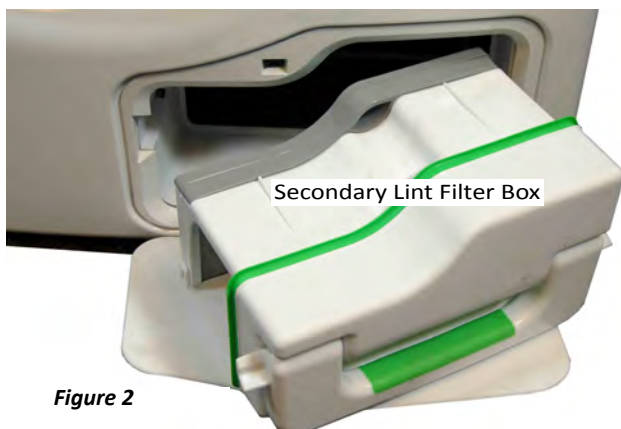

Figure 2
5. Open the secondary filter door at the bottom of the dryer. Grab the handle to pull out the secondary lint filter box (see Figure 2). Remove secondary filter door from front panel.